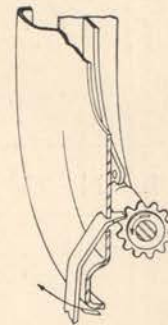

Fig. 2
The Adjusting Screw (Fig. 2). This adjustment regulates the clearance between the brake lining surface and brake drum to compensate for lining wear.
4. At all wheels: Expand the brake shoes by turning notched adjusting screw toward rim of backing plate, using adjusting tool or screw driver (inserted through backing plate), moving outer end of tool toward center of wheel. (Fig. 2). Continue until the shoes are expanded against brake drum so drum can just be turned by hand.
7. Depress the pedal with pedal jack until wheel with the least brake drag can just be turned over by hand. Then back off the adjusting screw on the tight brakes until the brake drag is alike at all four wheels. Figure 2 shows adjusting screw being tightened.
8. Using adjusting tool expand brake shoes at the adjusting screw (Fig. 2) until each wheel can just be turned by hand.